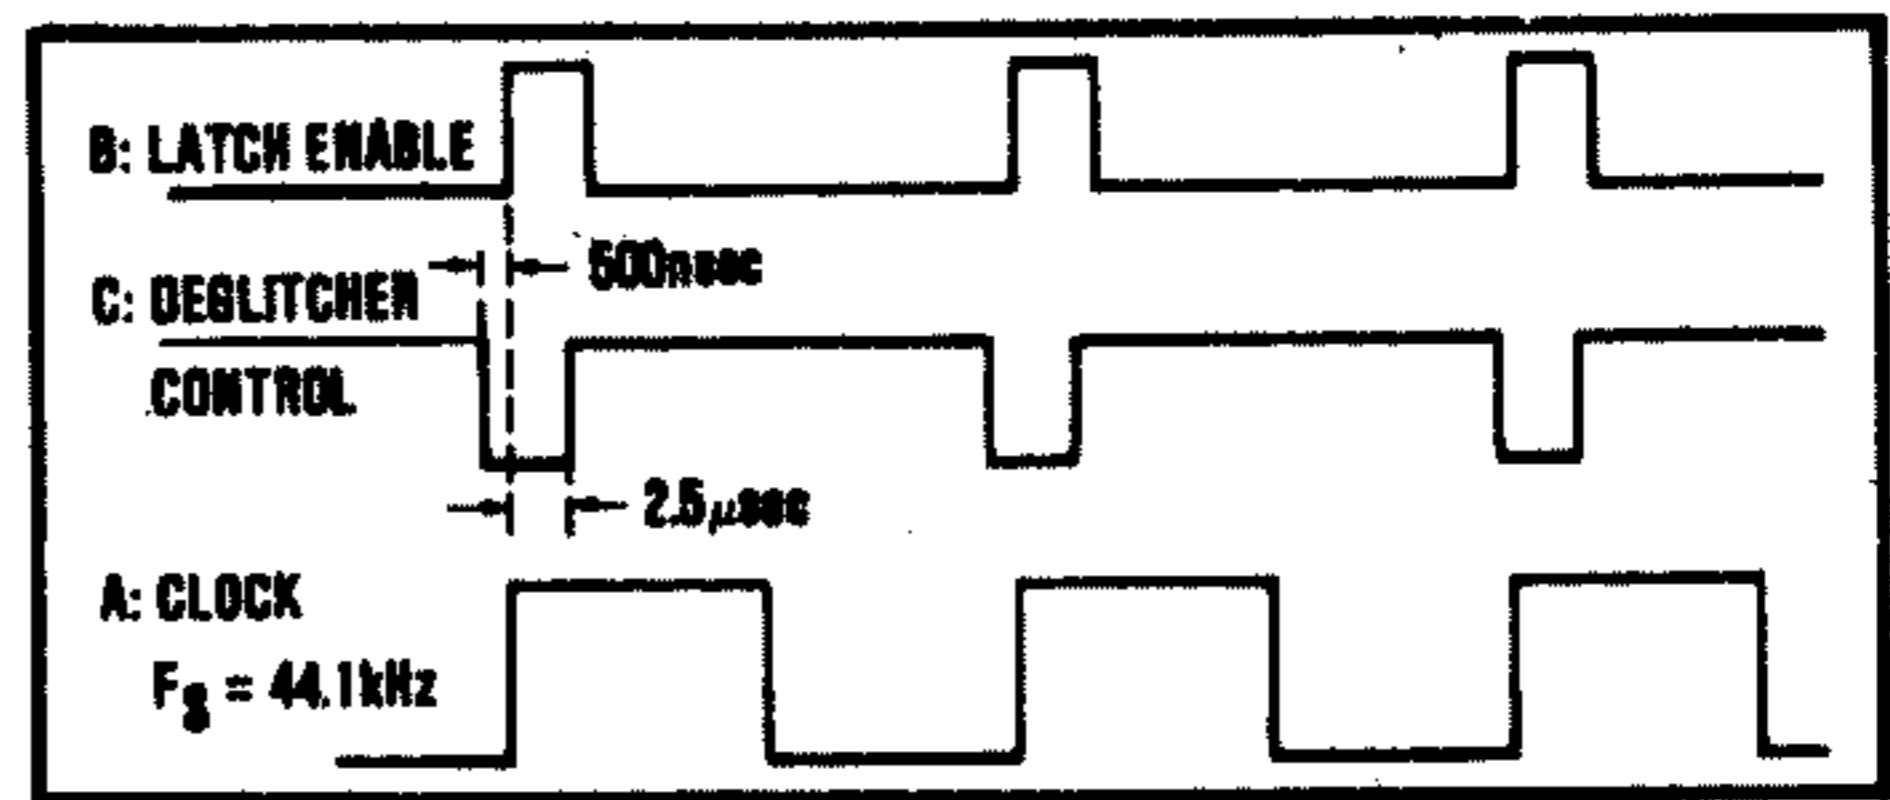
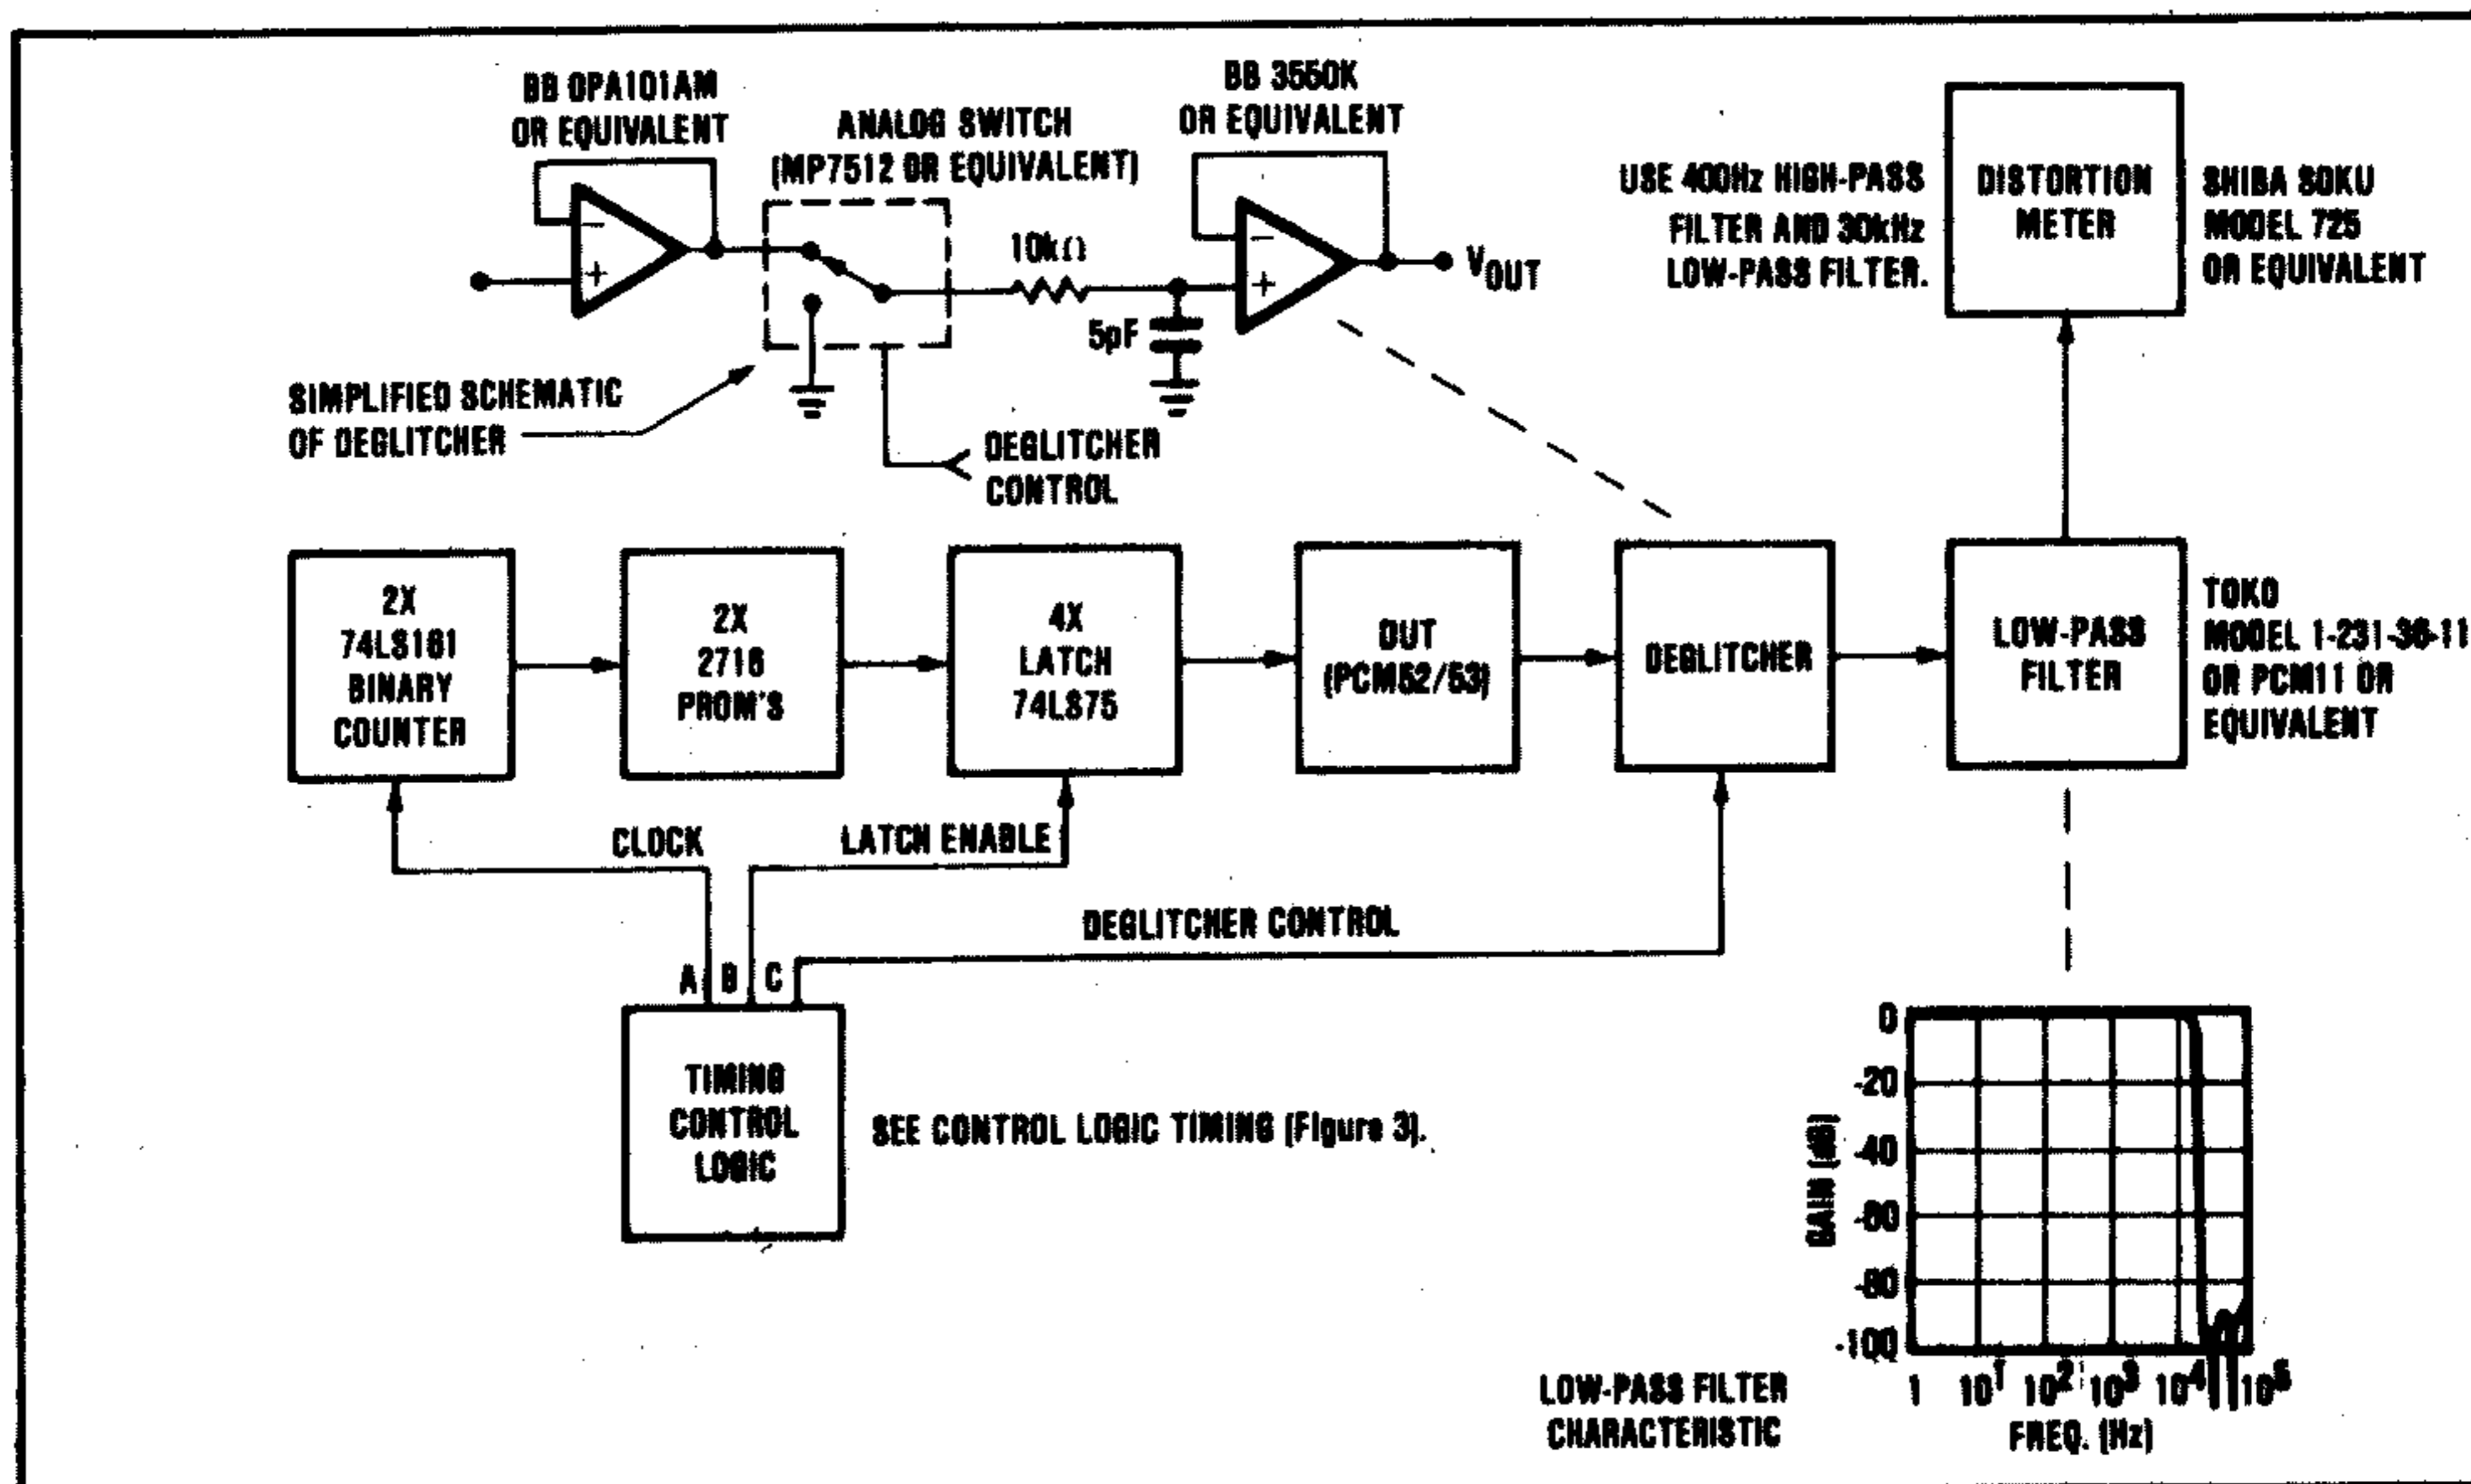

FIGURE 3. Control Logic Timing for PCM53 Distortion Test Circuit.
FIGURE 2. Block Diagram of Distortion Test Circuit.
NOTES: (1) Adjustable to zero with external potentiometer. (2) FSR means Full-Scale Range and is 20V for ±10V voltage output models and 2mA for ±1mA current output models. (3) The measurement of total harmonic distortion is highly dependent on the characteristics of the measurement circuit. A block diagram of a measurement circuit is shown in Figure 2. Burr-Brown may calculate THD from the measured linearity errors using equation 2 in the section on "Total Harmonic Distortion," but specifies that the maximum THD measured with the circuit shown in Figure 2 will be less than the limits indicated. (4) Measured with an active clamp to provide a low impedance for approximately 200nsec. (5) Deglitcher or Sample/Hold delay used in THD measurement test circuit. See Figures 2 and 3. (6) See Connection Diagram and Pin Assignments.
The THD is defined as the ratio of the square root of the sum of the squares of the values of the harmonics to the value of the fundamental input frequency and is expressed in percent or dB. A block diagram of the test circuit used to measure the THD of the PCM53 is shown in Figure 2. A timing diagram of the control logic is shown in Figure 3.